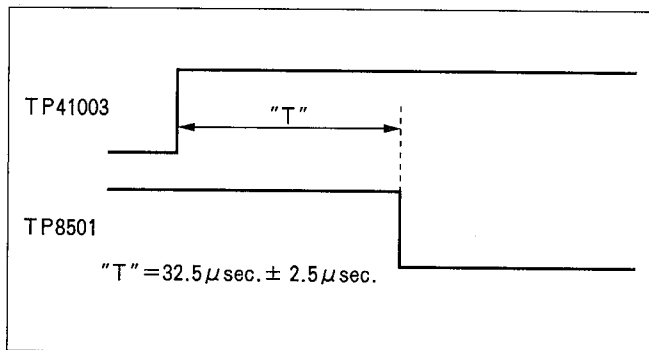

Figure E38-A
2. Adjust VR8501 so that the "T" becomes  $32.5 \mu\text{sec} \pm 2.5 \mu\text{sec}$  as shown in Figure E38.